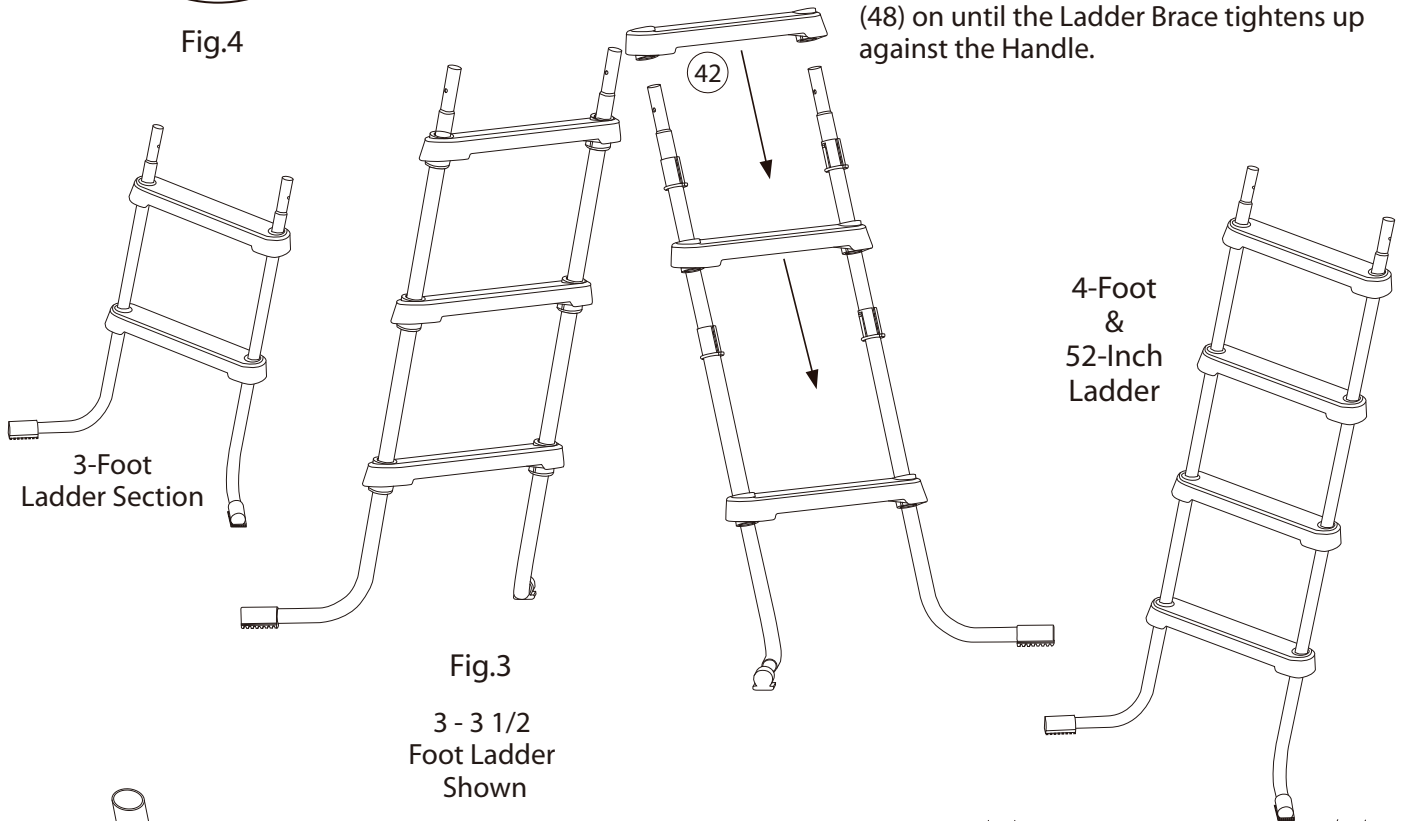
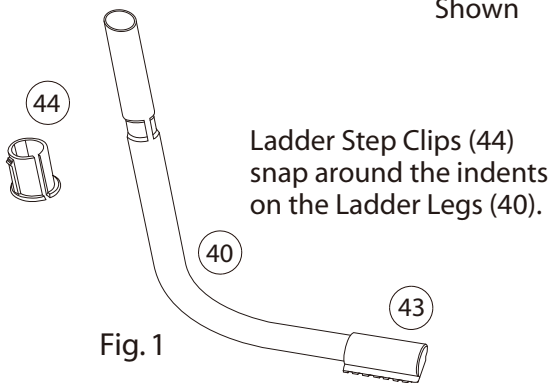
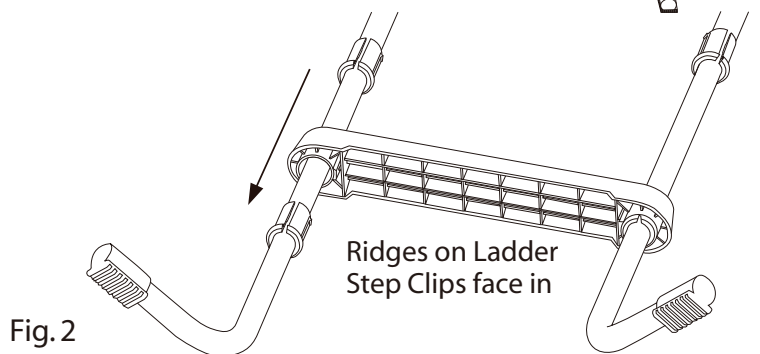

Fig. 3
Fig. 1
Fig. 2
1. Separate the Ladder Legs (40) – 2 pieces each left and right. Look for the “L” and “R” on the top of the legs.
2. Start with one “R” ladder leg section (40). Carefully pry open one ladder step clip (44) from the side, just enough to get over the top section of the ladder leg, and slide it from the top of the leg down to the lowest indented section as shown in Figure 1. The ridge on the ladder clip should be on the inside of the leg as shown in Figure 2. Repeat with “L” leg section.
3. Slide a step (42) down over both legs. Make sure that the side of the step marked with an “R” is on the right side leg. Slide the step down until the ladder step clips (44) inserts into the underside of the step and the ridges inside of the clips lock into place. The ladder step clips should stay in the indented section of the ladder leg as you press the steps down over them. The ladder step clips should insert flush against the bottom of the step. See Figure 2.
4. Repeat Steps 2 and 3, installing the rest of the ladder step clips (44) and steps (42) for the first section.
6. The Machine Screws (45) should be installed from the inside of the Handle (41), and out through the Ladder Handle Brace (49) on the outside. Make sure that the English warning is facing out on both handle sections. Install the Lock Washer (47), and thread the Cap Nut (48) on until the Ladder Brace tightens up against the Handle.
7. Stand both ladder leg sections in the upright position, with feet facing outward, as shown in Figure 3. Place the ladder handles (41), with the ladder handle braces on the outside of the ladder, on top of both ladder leg sections.